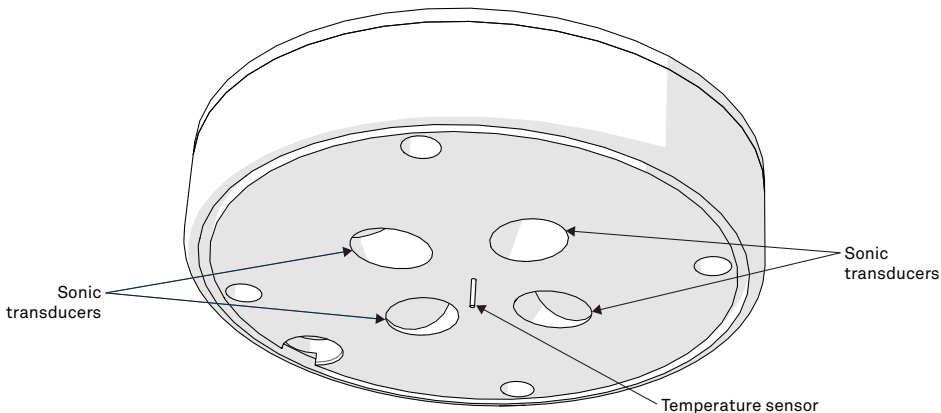

Figure 6 Temperature needle and sonic transducers
1. Make sure nothing is obscuring the temperature sensor or the sonic transducers shown in Figure 6 (cobwebs, leaves, wasp nests, etc.).
- **DO NOT** touch the temperature sensor needle (Figure 6).
- Avoid more than light pressure on the sonic transducers (Figure 6).
**Do not allow water to enter the sonic transducers (Figure 6). Water may corrode the metal parts inside and ruin the transducers.**